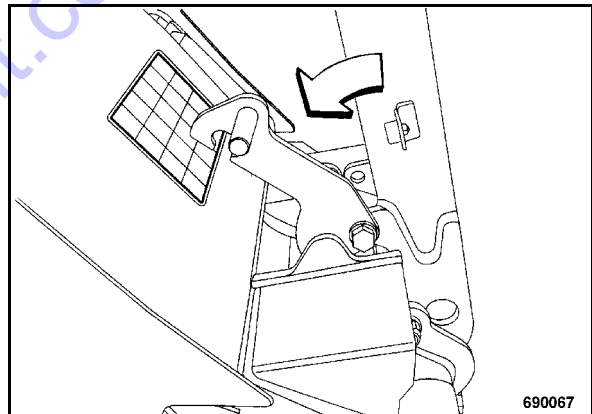

Fig. 41
- Adjust the steering rod upright and engage the locking lever (Fig. 41).